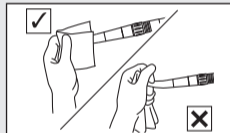

Fig. 28
- If you wish to purge excessive oil from inside the handpiece, rotate the handpiece for approx 15 seconds without a bur. During the rotation, do not depress the push button, especially when using absorbent cloth to prevent lubricant from scattering. Depressing the push button during rotation may damage the chuck mechanism (Fig. 28).